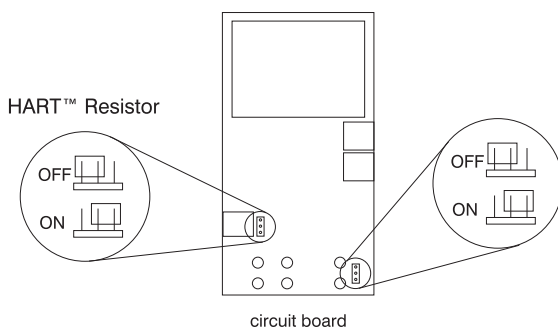

Figure 10a.
4. Figure 10a. shows the location of the HART™ jumpers.
4. Figure 10a. shows the location of the HART® jumpers.